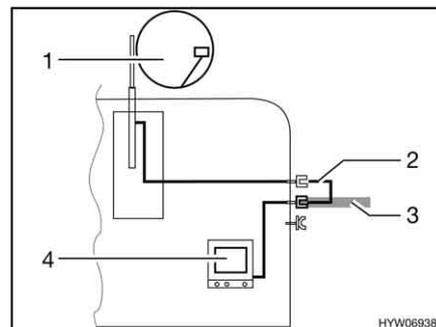

Fig. 178 TV inside the vehicle
- TV inside the vehicle (Fig. 178,4): Connection to roof antenna (Fig. 178,1) with connection cable (Fig. 178,2)
- TV inside the vehicle (Fig. 178,4): Connection to external antenna (Fig. 178,3)